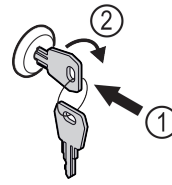

Fig. 61 Example illustration
- ▶ Insert key Fig. 61 (1).
- ▶ Turn key clockwise by 90° Fig. 61 (2).